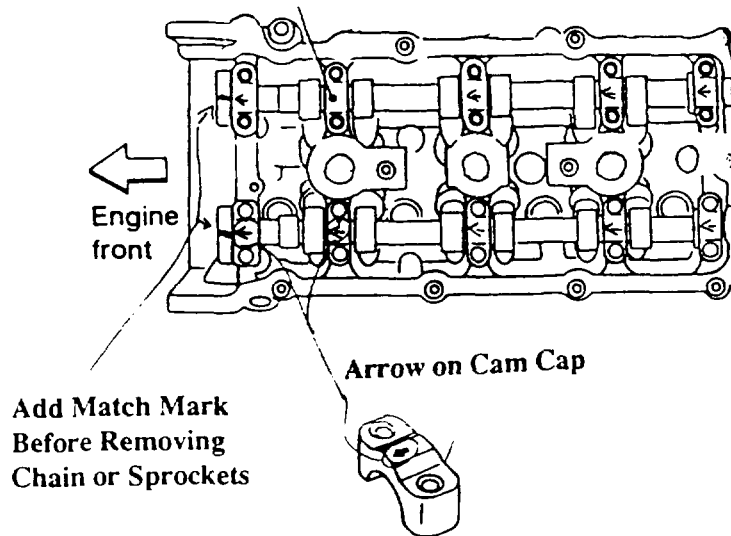

Figure 3
4. Verify the engine is on TDC #1 cylinder, Compression Stroke. Using a **fine point indelible marker**, carefully scribe a match mark on each cam flange, in line with the arrow on the front cam journal cap. It is important that this mark will not be removed even when wet by oil (Figure 3).
3. Verify that the match marks you scribed on the RH *cam front flange* align with the arrows on the front cam caps. Adjust cam sprocket to chain alignment, as necessary, to ensure that the match marks align (See Figure 3).